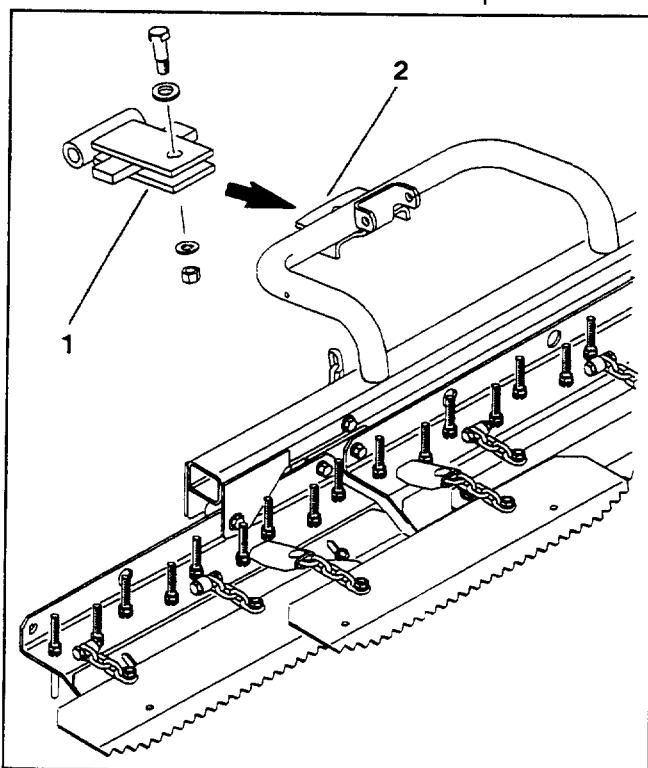

Figure 4
1. Slide lift pivot onto rake assembly plate, aligning mounting holes as shown in figure 4. Secure pivot to plate with a shoulder bolt, (2) flat washers and a lock nut. Position a washer on each side of pivot.